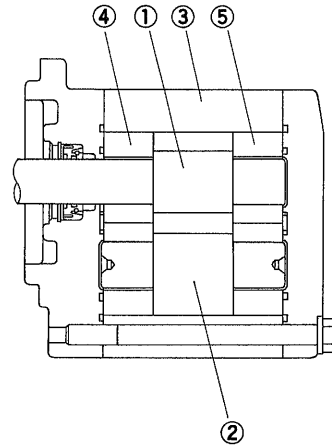

Fig. 113
- 1) Examine sliding surfaces of gears ①, ② and case ③. If excessive or abnormal wear is noticeable, replace. (Fig. 113)
- 2) Examine sliding surfaces of gears and bearings ④, ⑤. Replace parts with damage or excessive wear. (Fig. 113)